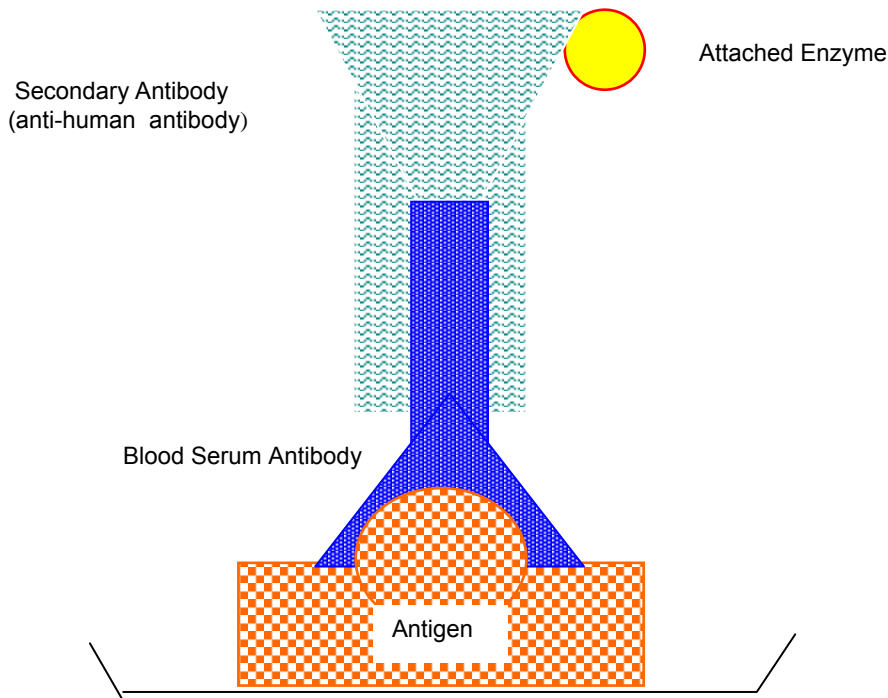

Fig. 3.3
3) In Step 3, another antibody is added. This is called the secondary antibody. This antibody was produced in another organism (such as a mouse). The secondary antibody is complementary to the constant region of the human antibody and will bind to the human antibody if it is present in the sample. In other words, this secondary antibody is an anti-human antibody. The secondary antibody has an attached enzyme. See Fig.3.3.
In between the addition of each layer, the wells are washed to remove any free molecules (molecules not adsorbed onto the sandwich layer). If the process is done carefully, the number of enzyme molecules is proportional to the number of blood serum antibodies molecules present. In Fig.3.3, there is a one to one to one ratio of Antigen: Blood serum antibody: Anti-human with attached enzyme.